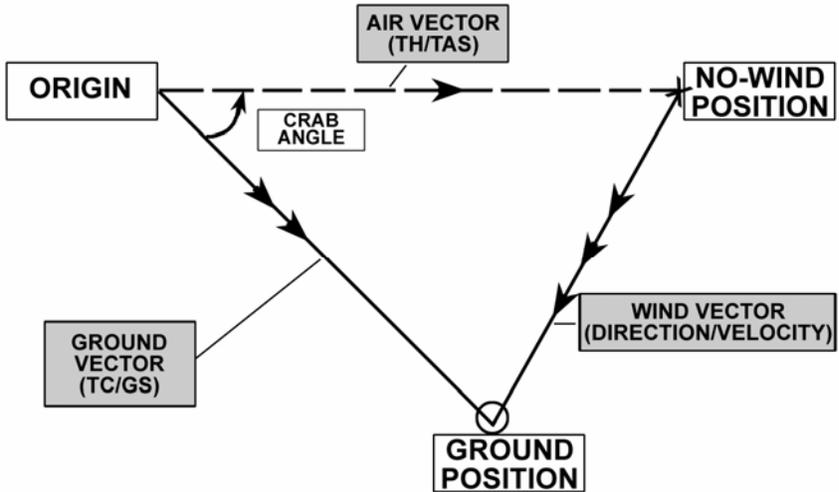

Figure 4.5-7
The resultant vector is the **GROUND VECTOR** that represents True Course or Track and Ground Speed. The result is the Wind Triangle (Figure 4.5-7).
The direction of the ground vector is the aircraft's intended or actual path over the ground, and the magnitude is the aircraft's groundspeed. The tail of the ground vector is our origin, and the head is the aircraft's current or predicted ground position. On the Wind Triangle, the angle formed by the Air and Ground vectors is called crab angle. (Figure 4.5-7)
The True Course Index is used to input the True Course (TC) in a preflight wind calculation, or Track (TK) in an in-flight wind calculation (Figure 4.5-9). Remember that either of these directions can represent the direction of the Ground Vector (Figure 4.5-7).